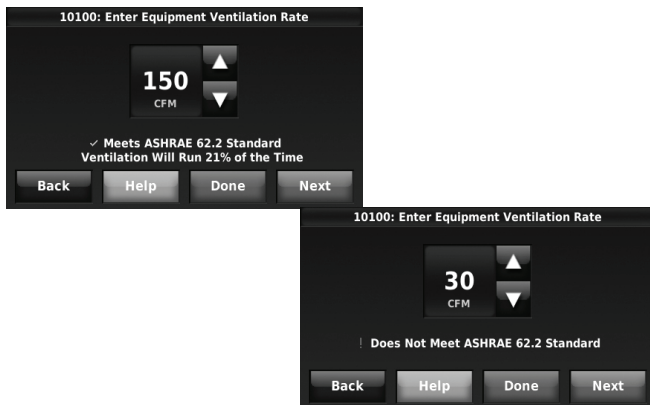

Fig. 258.
6. If ASHRAE was selected for ISU 10050, enter the Equipment Ventilation Rate (CFM). Be sure this setting corresponds with the actual ventilator speed. This setting determines how often the ventilation equipment will operate to meet the ASHRAE 62.2 Standard. The thermostat will indicate the following based on the Equipment Ventilation Rate, Square Footage and Number of Bedrooms. See Fig. 258.